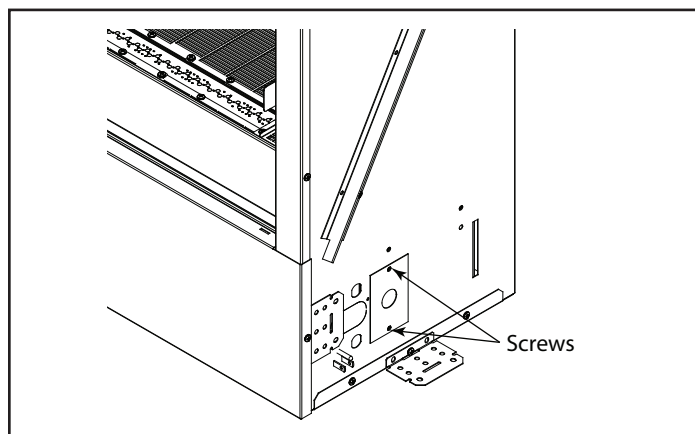

Figure 5.1. Access Panel Removal
- Remove (2) screws securing junction box access panel. See Figure 5.1.